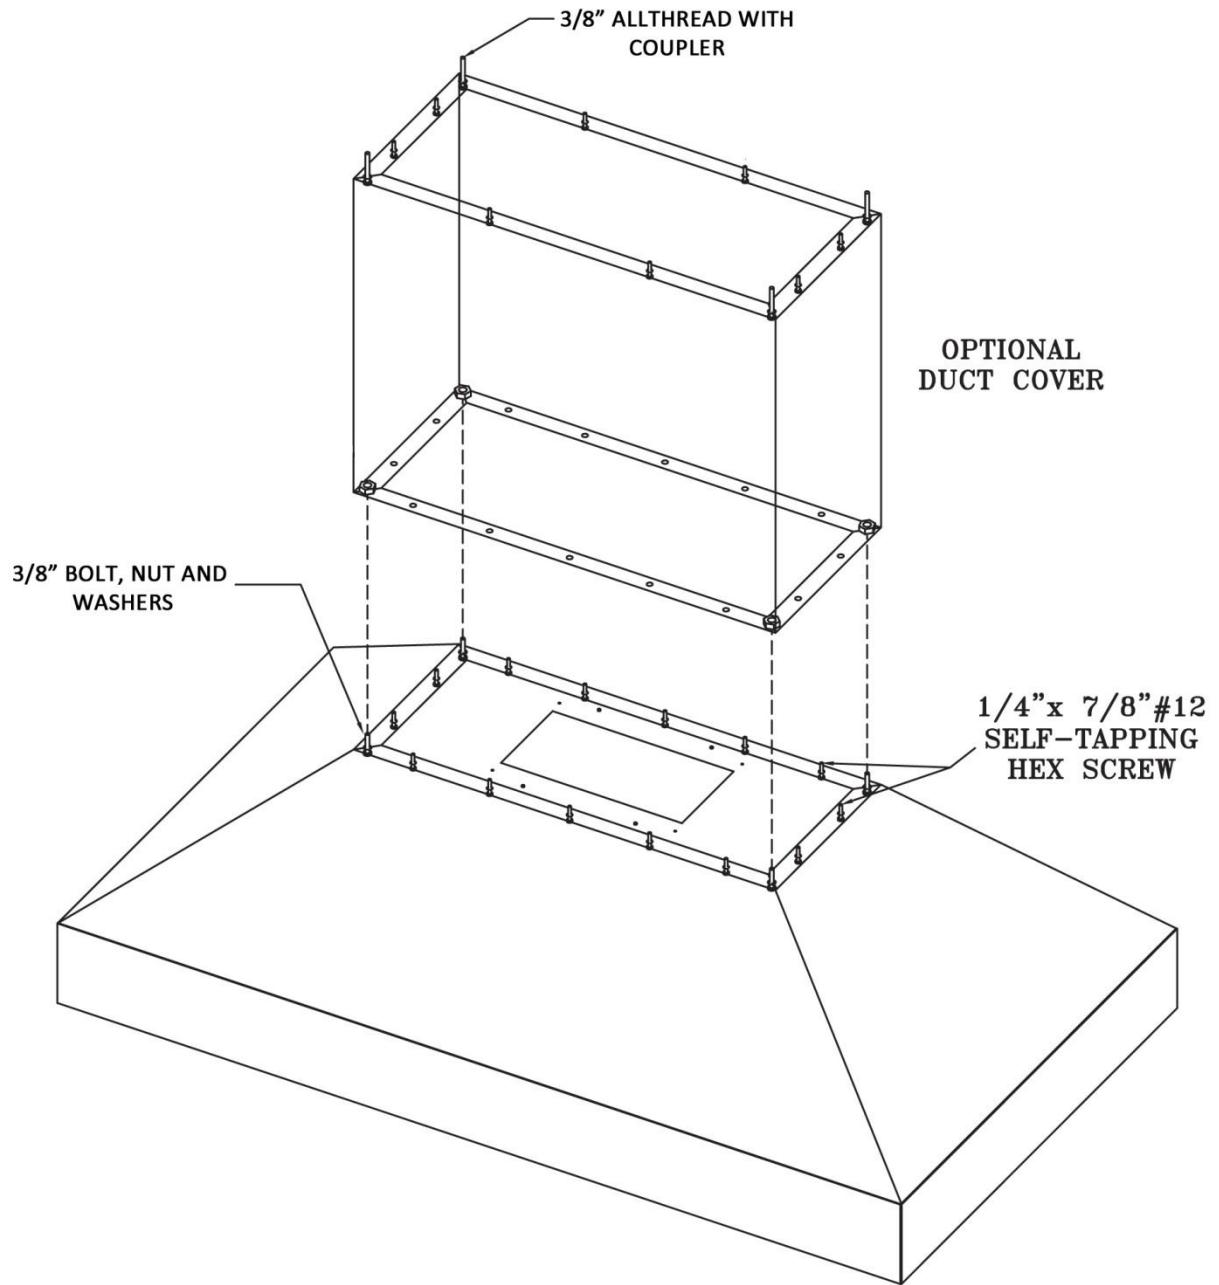

Figure 14.
1. When installing a duct cover, the duct cover must be installed prior to the hood installation. See Figure 14 for duct cover installation instructions.